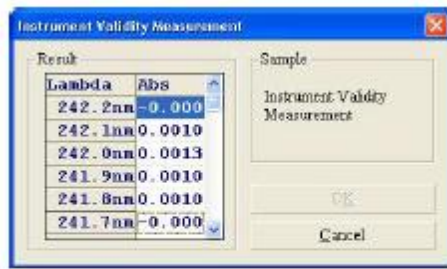
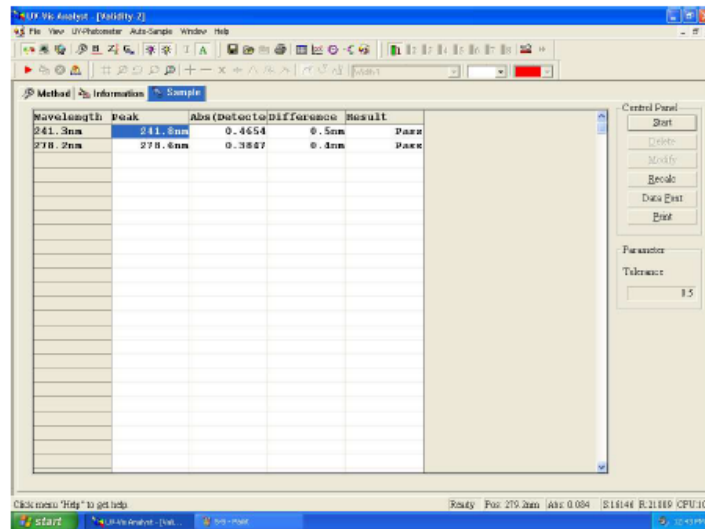

Fig. 5-7
Fig. 5-8
11. Place the wavelength standard filter in sample holder, click  to run a new measurement, appears following form (Fig 5-7). Click ok to list the data in the table (Fig 5-8).